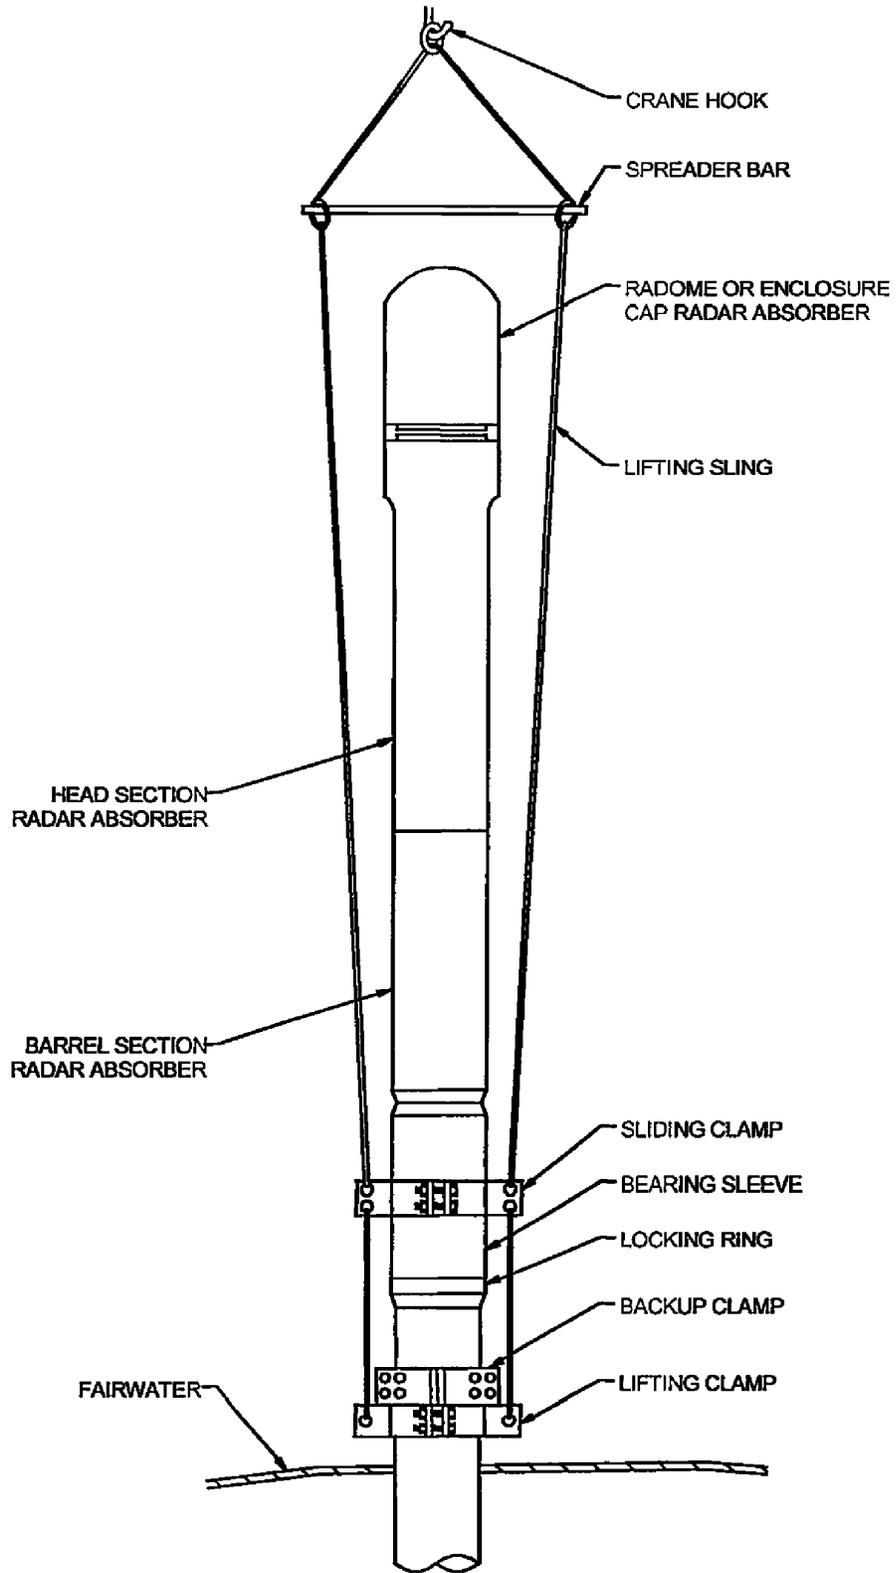
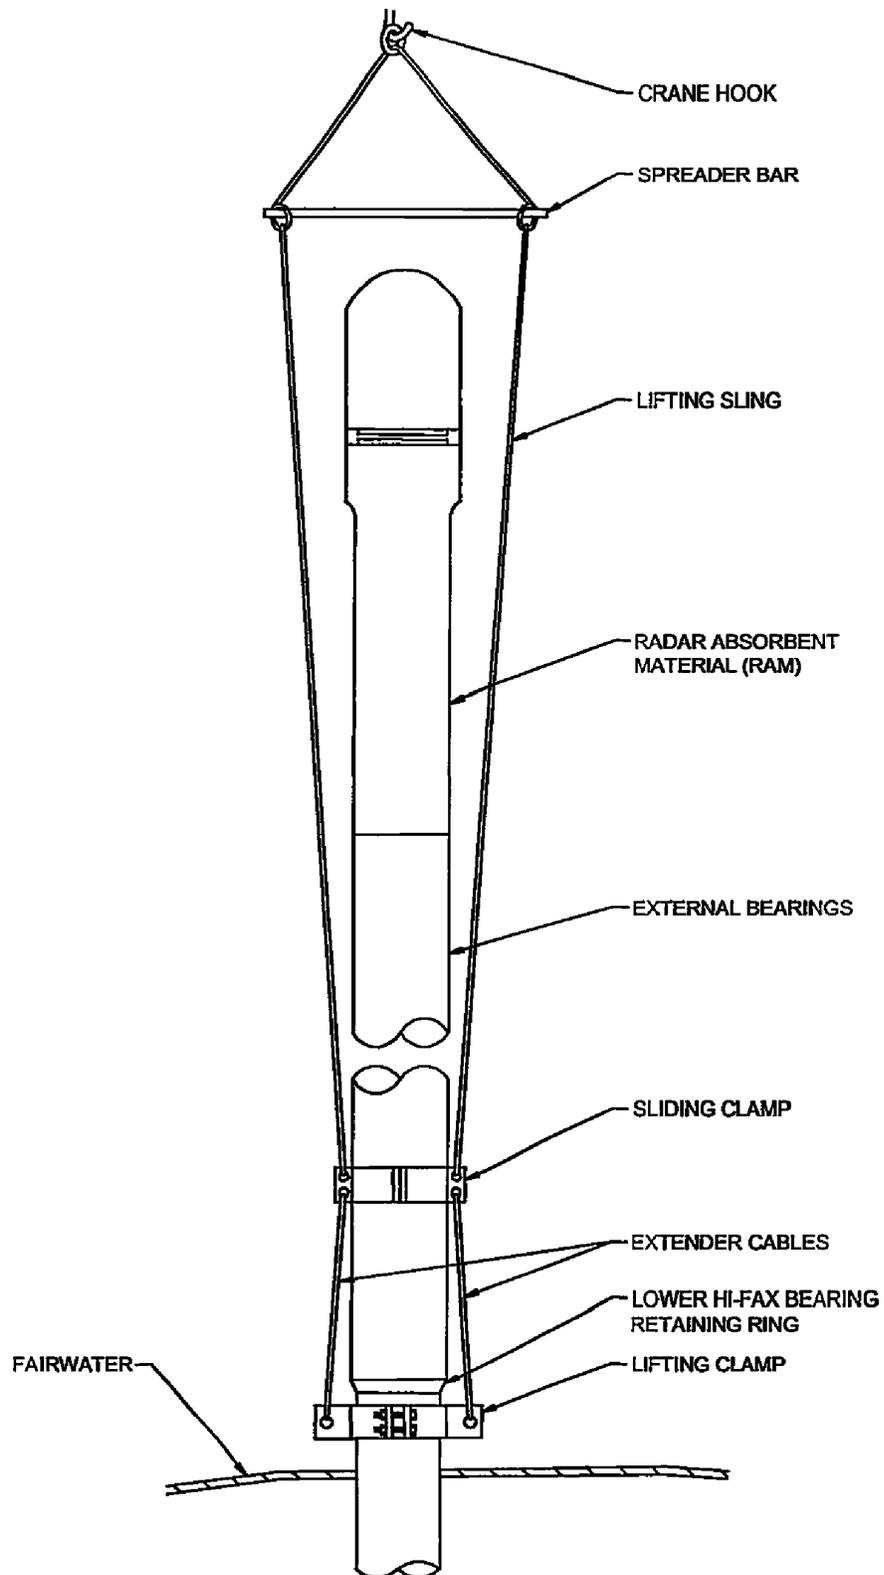

Figure 4-5 Type 8B MOD-3 and Type 18B (with TufLite Bearing) Periscope Rigged for Removal
Figure 4-7 Type 18 B (with Hifax Bearings) Periscope Rigged for Removal
- d. Per Table 2-1, use the assembly 47 clamp. Reinspect for any possible grit or dirt on the clamp lining and install the lifting clamp approximately 1/2 to 1 inch above the fairwater. For safety reasons, this gap should be as small as possible with the lifting lugs positioned parallel to the head window as illustrated in Figures 4-5, 4-6, and 4-7.
- h. Install a backup clamp against and above the lifting clamp. Orient the backup clamp with the lugs 90° from those of the lifting clamps as illustrated in Figures 4-5 and 4-6. Use this arrangement for all periscope clamping except for Type 18B (with Hifax Bearings). The Type 18B (with Hifax Bearings) periscope, Figure 4-7, does not use a backup clamp.
- l. Attach lifting slings to the lifting (lower) clamp lugs. For Type 18B and Type 8B MOD-3, attach lifting slings to the upper holes in the sliding clamp lugs. Ensure slings are long enough to extend above the periscope. A spreader bar is attached to the slings to prevent the head window and other elements on the periscope head assembly from damage. See Figures 4-5, 4-6, and 4-7.